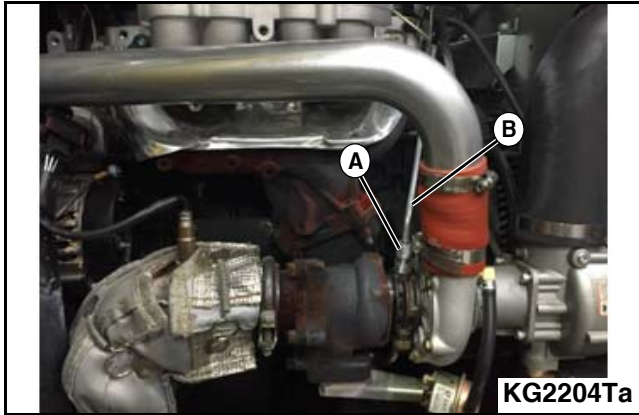

Figure 3-43
2. Disconnect the nut (A) on the turbocharger oil feed line fitting. Pull the oil feed line (B) slightly away from the fitting. **See Figure 3-43.**